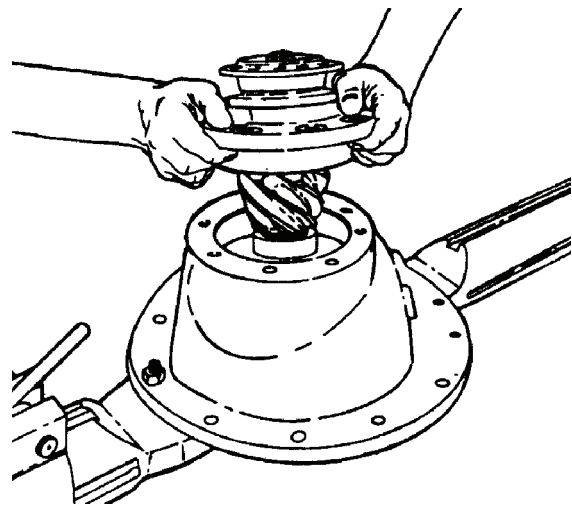

Figure 120.
- (b) Temporarily install the drive pinion and cage assembly in the carrier. Do not install shims under the bearing cage. Figure 120.